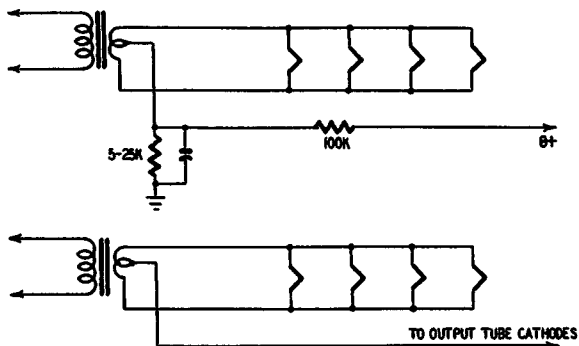

Fig. 907-a, -b. Biasing the filament strings will help reduce hum.
4. A very simple cause of increased hum is the accidental grounding of one side of the filament string in amplifiers using positive bias on the filaments as shown in Fig. 907. This grounding is not likely to occur when the amplifier is in normal use; but it can occur when troubleshooting, signal-tracing or resoldering joints or when a loose piece of solder or end of wire rolls against a filament lug on a socket. Grounding one side of such a filament loop will remove the biasing and therefore the hum reduction it provides; it will also unbalance the loop. A simple ohmmeter check can show this up. In a biased filament string the reading from either filament contact on a socket to ground should provide a high resistance—at least 300 ohms if the positive bias comes
from the cathodes of the output tubes as in Fig. 907-b and probably anywhere from 5,000 to 20,000 ohms if the bias is provided by a voltage divider across the power supply as in Fig. 907-a. If the resistance is zero, the string is grounded; search for the point of grounding. It may be nothing more than a filament lug bent down so it contacts a grounding lug on the socket frame. A tube with a heater-cathode short will do it, too.